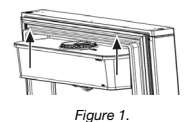

Figure 1.
B. In some models, the refrigerator's vegetable storage drawer contains a plastic bag with two levelers. When unpacking, proceed as follows, see Figure 1:
1. With both hands, grasp the water storage tank and tilt it slightly upwards, then pull upwards until the tank completely disengages from the refrigerator door (see figure 1).
- LEVEL THE REFRIGERATOR. Remove the wooden bases and adjust the leveling screws (FIGURE 1).
- Check that the CONDENSER IS FREE OF DUST AND LINT (FIGURE 1).